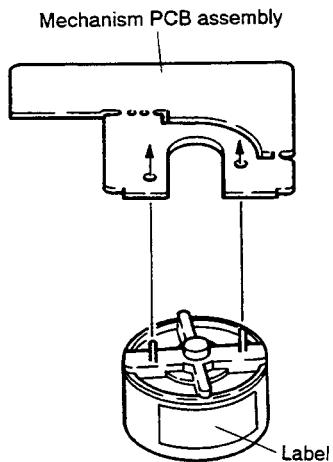

Fig. 2-9
(2) Solder the terminals of the loading motor to the mechanism PCB assembly. Since the loading motor has polarity, the positional relation between the label of the motor and the mechanism PCB assembly is shown in Fig. 2-9.